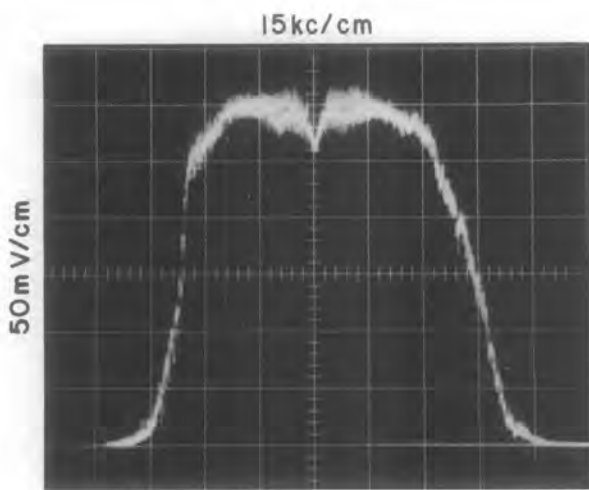

Figure 4-12. Typical Response, 75-kc IF Amplifier Stage
- (1) The equipment should be left connected as in the last step of the previous procedure—except set generator No. 1 to 21.400 mc and disconnect generator No. 2.
- (2) Set the IF BANDWIDTH switch to 75 KC.
- (3) Set the sweep generator controls to obtain the marker and response display.
- (4) Adjust coils L2 and L6 to obtain a response similar to Figure 4-12.